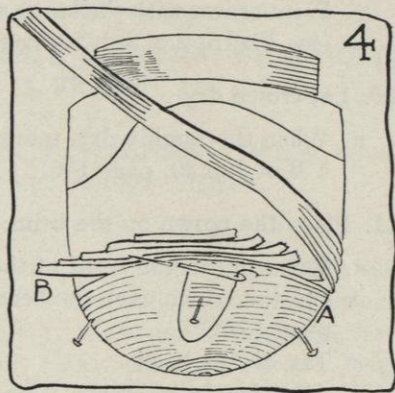

FIG. 4.
a. Measure a piece of straw braid, so that it reaches about 2 inches beyond the point where you want to begin and to finish setting in the extra row (see points A and B in Figure 4).
b. Rip the straw back, as shown in Job 63, Sections 3 a and b (page 268), but begin at the *unfinished* row (see point A in Figure 4).
c. Start to sew the straw $\frac{1}{2}$ inch in from point A (see Figure 4); use tiny running stitches and an occasional back stitch, keeping stitches parallel to the edge of the finished edge of the straw.
d. Rip the straw at point B back in the opposite direction from the rows ripped back at point A of Figure 4.
- a. When thoroughly dry, remove carefully with the aid of a whalebone as a pusher (see Figure 4 *B* of Job 39, page 156).